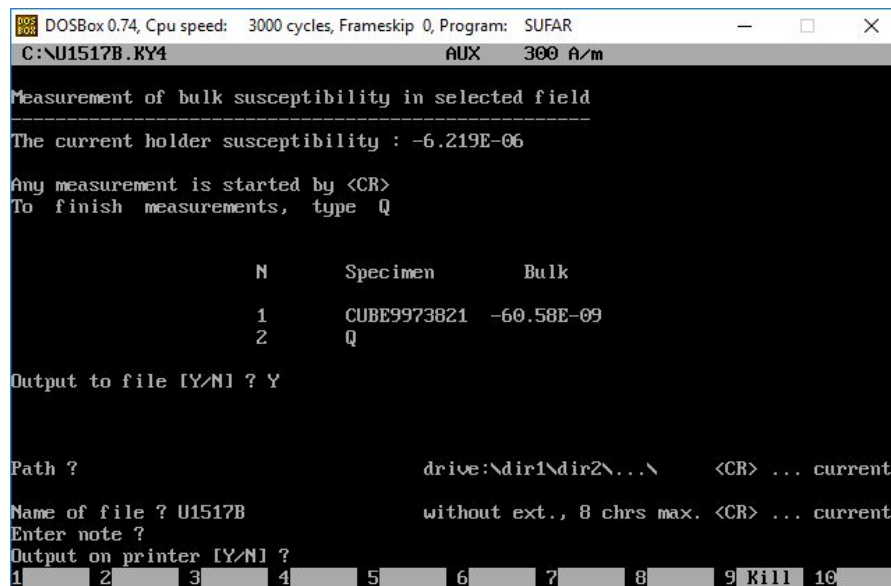

Figure 27 Saving Bulk Susceptibility data
10. When measurements are complete, enter **Q** and press return (**Figure 27**).
11. User will be prompted to Output the data to a file. Enter **Y** and press return to save data (**Figure 27**).
12. User is prompted for the file path. Press return to use default file path (**Figure 27**).
13. At the Name of File? Prompt, enter a file name under 8 characters in length. Recommended file name is Site and Hole (ex. U1517B). Press return (**Figure 27**).